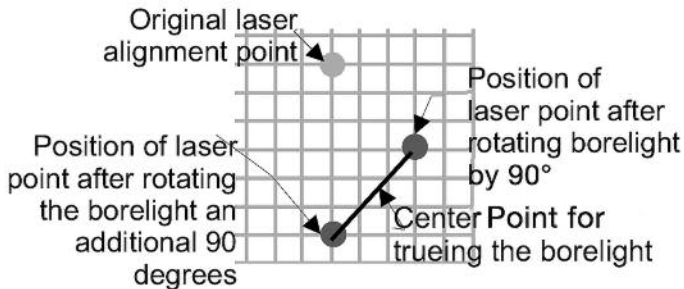

Figure 2-6
9. Next, mark the point that is exactly one-half the distance between the two points marked in Steps 7 and 8 above, the "Center Point". See Figure 2-6 below.